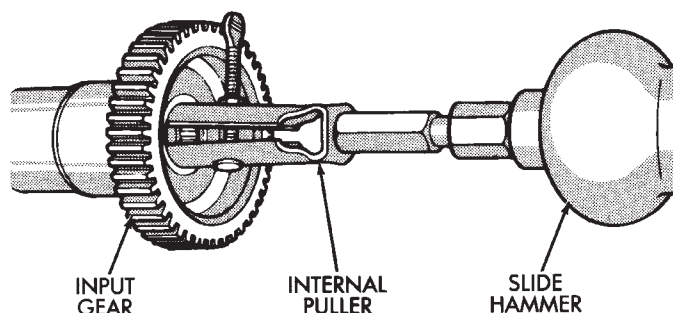

Fig. 59 Removing Input Gear Pilot Bearing
(4) Install bearing with Tools C-4171 and 7823 (Fig. 59). Bearing locating ring should be fully seated against case surface.
The old bearing can be removed with an internal-type puller and slide hammer as shown (Fig. 59). Or, the bearing can be removed with a two-jaw blind hole puller similar to the type used to remove a clutch pilot bushing.